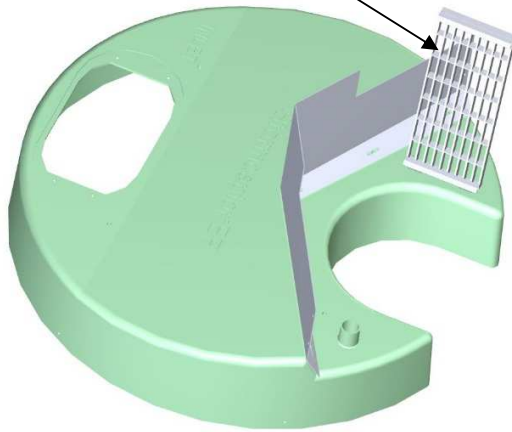
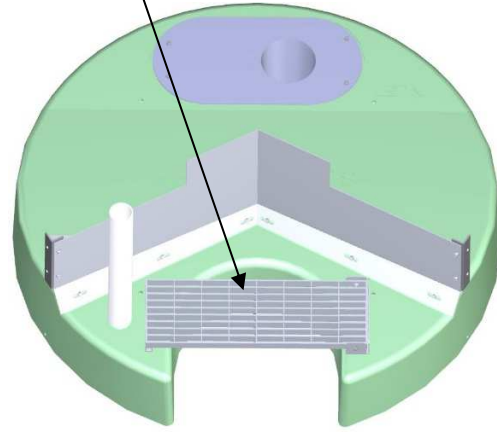

Figure 3A
Figure 3B
- **NOTE:** If the unit has an **outlet platform**, the outlet platform is typically in the UP position (see Figure 3A) for normal treatment conditions, and for inspection and maintenance. If manned entry into the unit is required, the outlet platform must first be placed in the DOWN position (see Figure 3B). After manned entry is completed, return the outlet platform to the UP position for treatment.